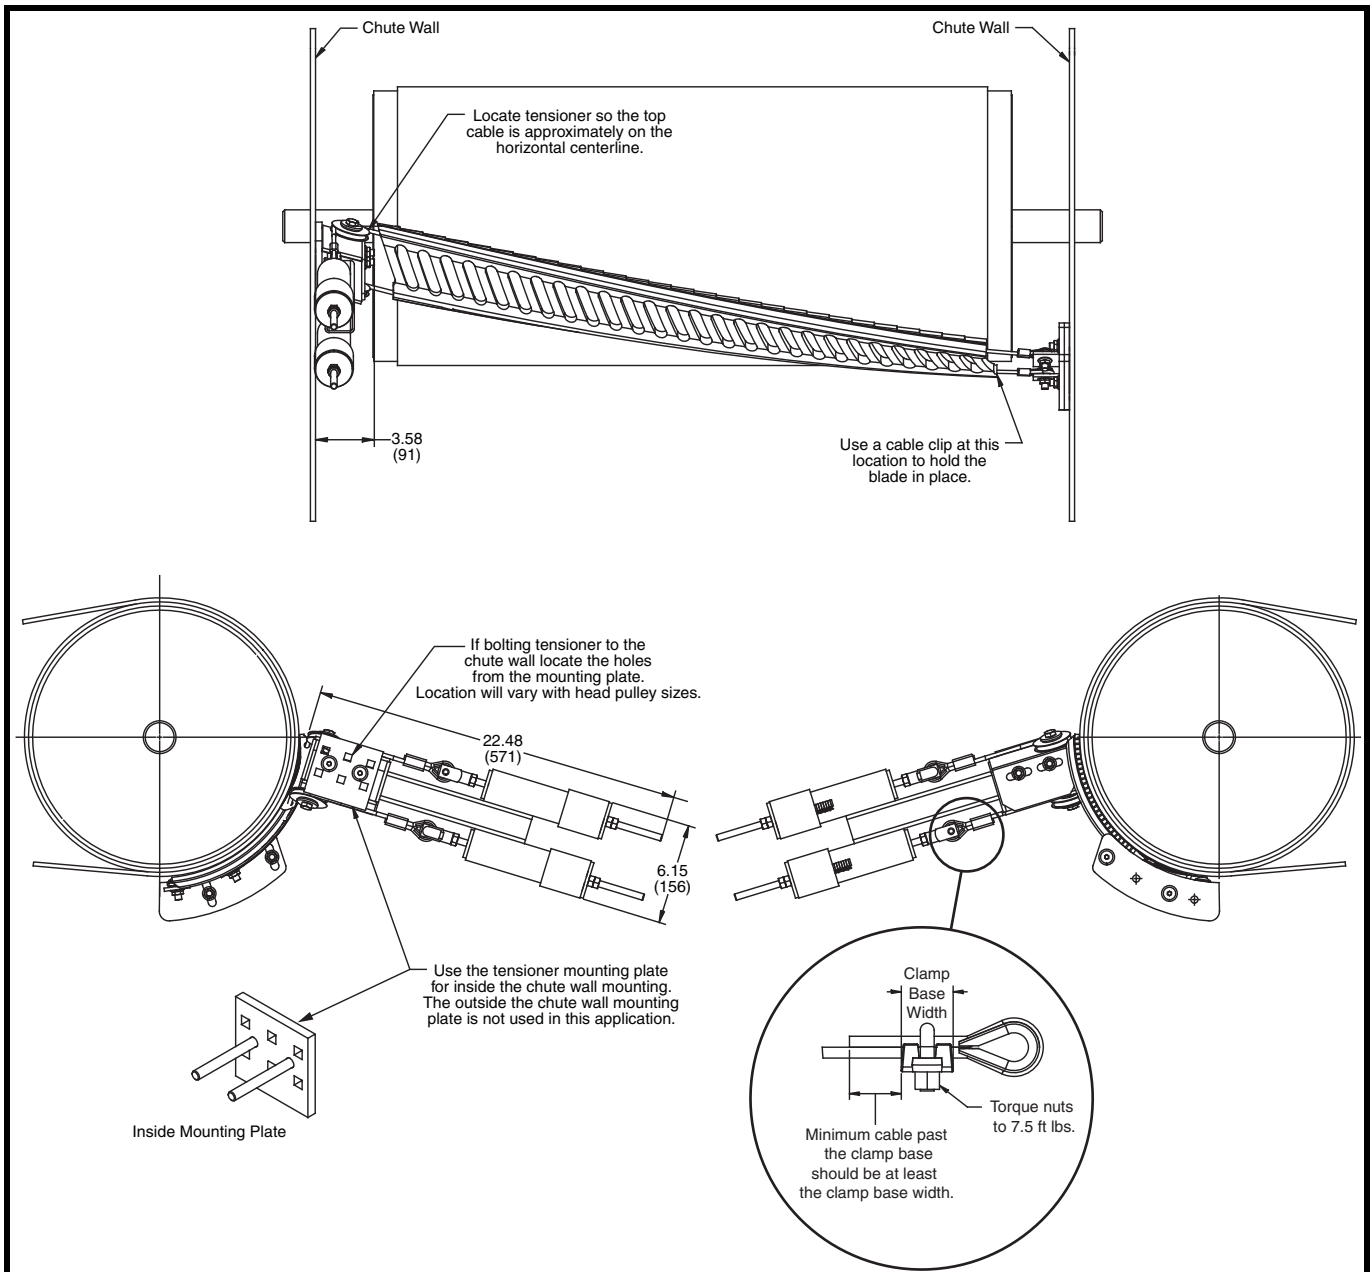

Figure 7. Installing Tensioner on Inside Chute Wall
- d. Position tensioner in desired location free from obstructions as shown in Figure 7.
3. Assemble cable eyelet and clamp as shown in Figure 7.